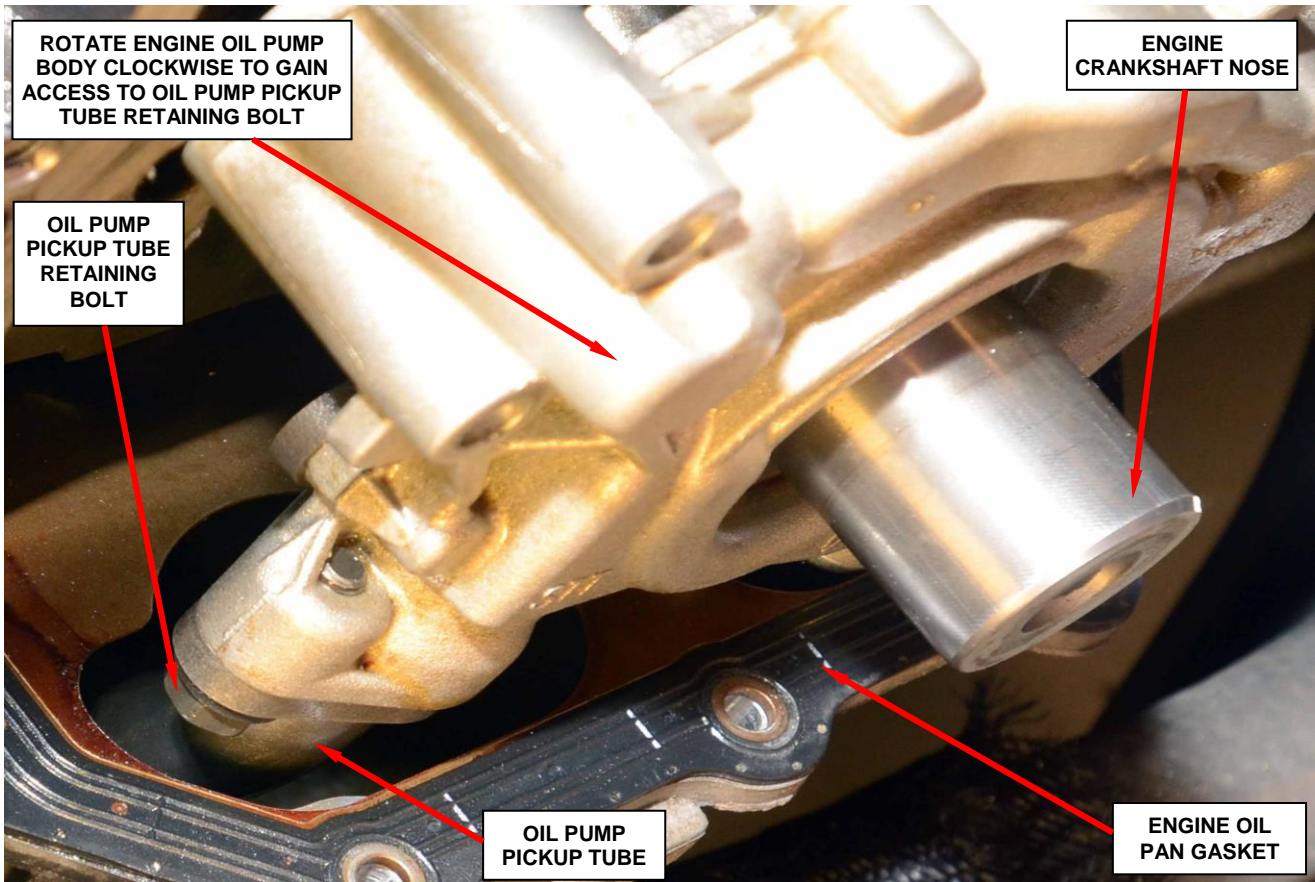

Figure 9 – Oil Pump Pickup Tube Retaining Bolt
40. Rotate the engine oil pump body clockwise to gain access to the oil pump pickup tube retaining bolt (Figure 9).
41. Carefully remove the engine oil pump pickup tube retaining bolt (Figure 9).